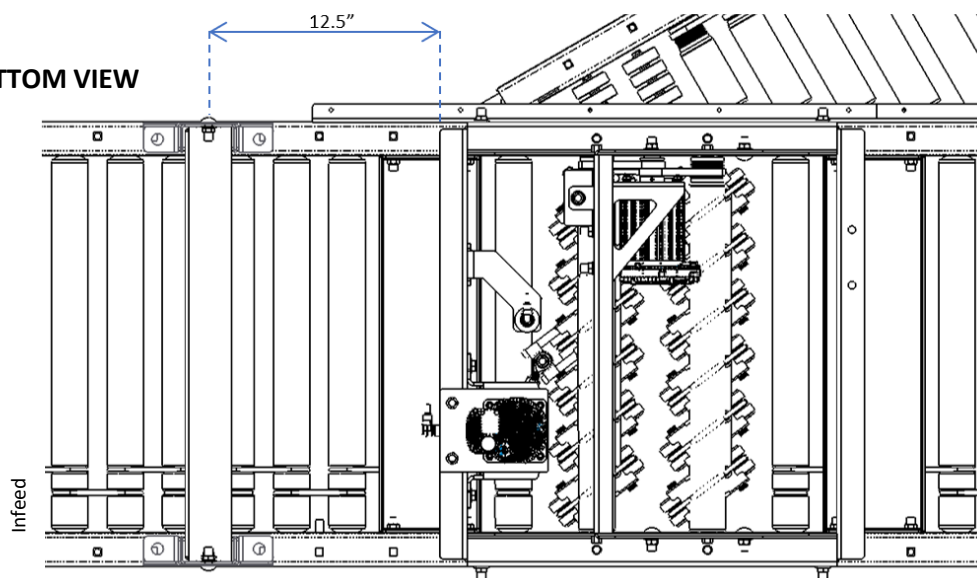
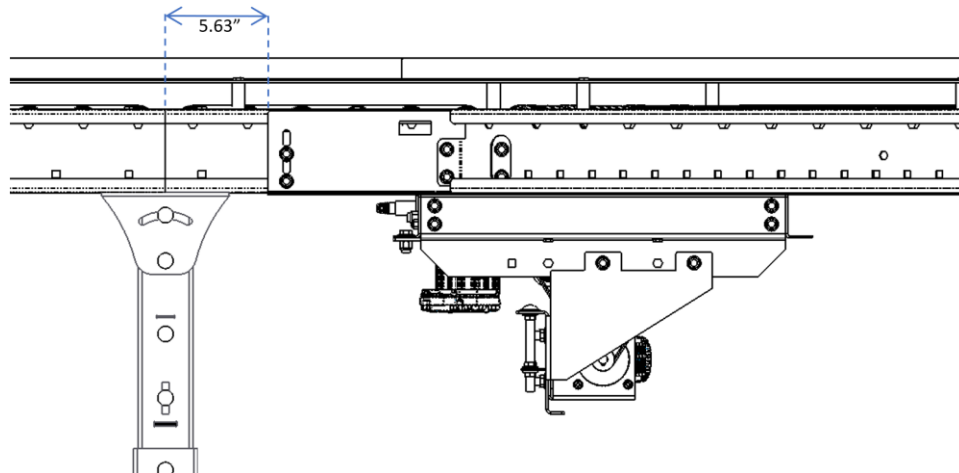

Figure 7: PWD and divert spur location - Top and Bottom view
Figure 8: PWD and divert spur section - Side view
Once the PWD has been installed to the mating conveyor frame, the spur is installed to the conveyor section to which the PWD has been installed to. Figure 7 and Figure 8 illustrate the dimensions for installing a spur to the conveyor section with a PWD in different views. Installation instructions for a conveyor spur section can be found in the **Installation & Maintenance Manual: RLSDC**.
2. The spur begins at one roller position before the PWD. Refer to the top view of the divert and spur location in Figure 7.